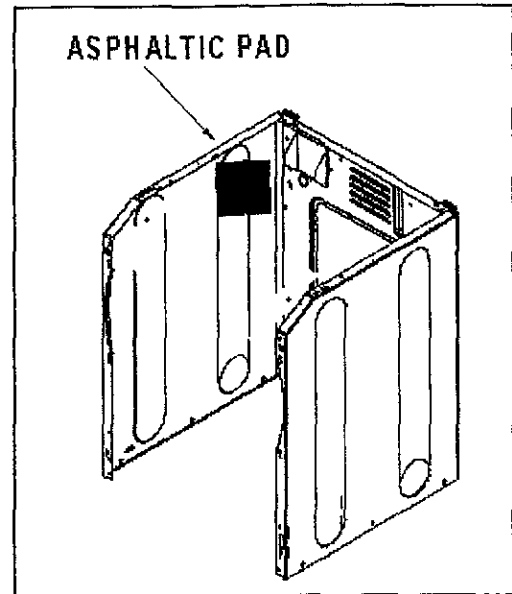

Figure 5
3. Locate the asphaltic pad in the kit. Clean the surface area as indicated in *Figure 5*.